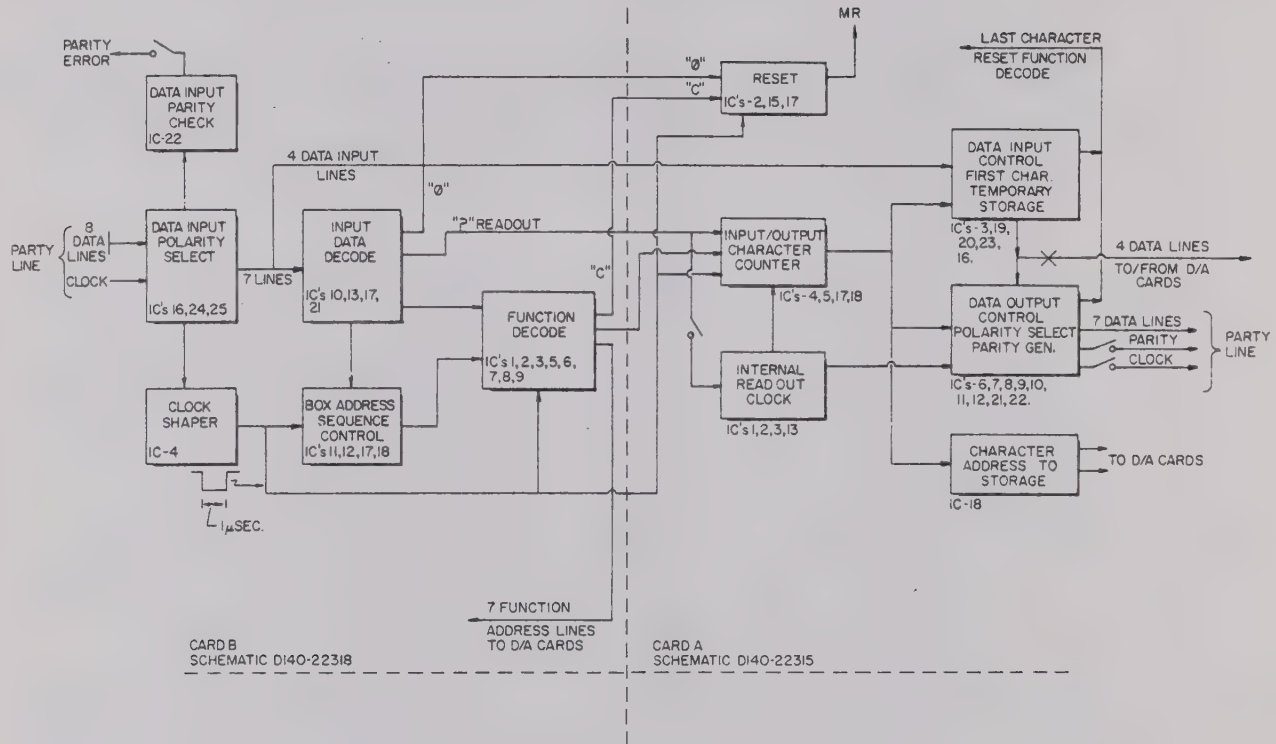

Figure A4-1
- a. Block Diagram Level. (See Figure A4-1) The block diagram contains the major functions performed along with the IC numbers which make up the logic. The diagram is divided by a dotted line showing which parts of the logic are located on each of the two cards. Basically, card B provides the box address and function decoding, and card A directs the data characters to their correct storage registers.